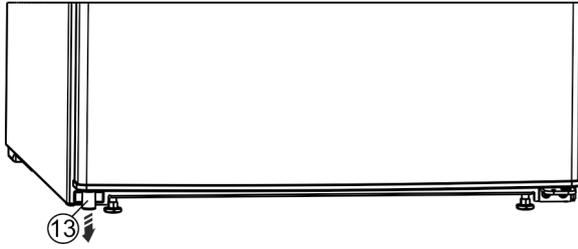

Fig. 12 \*
- ▶ Remove the spacer Fig. 12 (13) from under the left-hand side of the door.\*